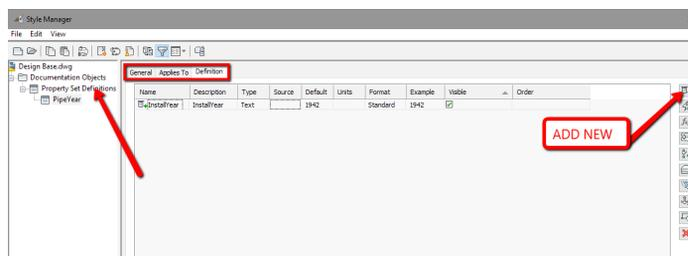

Figure 3
- Right-click on Property Set Definition and select NEW (Figure 3). For this example, I will use PipeYear as I want to label the year installed on my pipes.